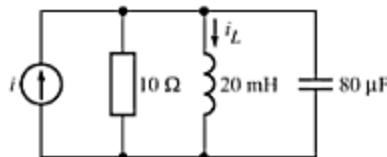

Fig. C-56
- C-86. The current source $i = 4\sqrt{2} \sin(400t - 10^\circ) \text{ A}$ in Fig. C-56. Use current division concept to find current i_L in the inductor for the circuit. [Ans. $6.85 \angle -7^\circ \text{ A}$]